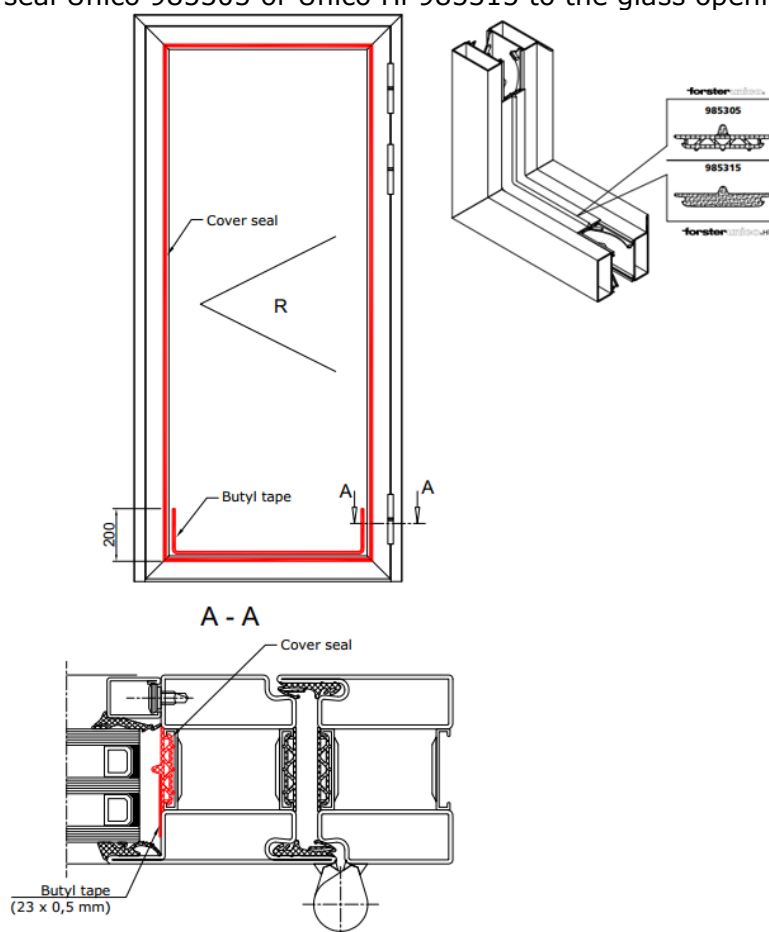

Figure 9 Cover seal and butyl tape installation
2. Install the cover seal Unico 985305 or Unico Hi 985315 to the glass opening (Figure 9).
3. Install butyl tape in the lower part of the glass opening. Butyl tape must't cover the drainage pipe in the horizontal profiles, make cutouts for these. The corners of the frame must be siliconed after the tape installation. If the drainage pipes have not been previously installed, they must also be added. Butyl tape must be installed in each glass opening (Figure 9 and 10).